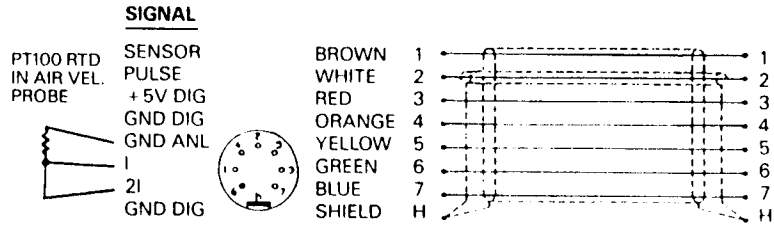
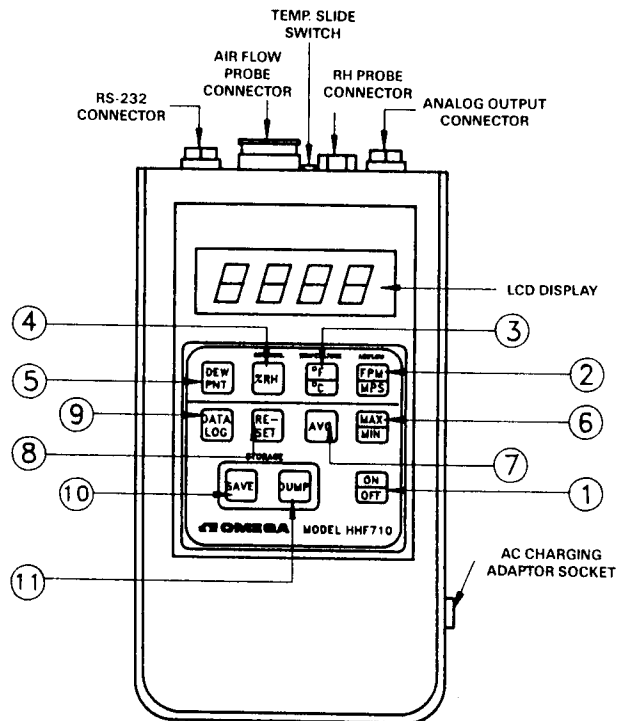

Figure 2-1. Air Velocity Probe Cable and Connector
Figure 3-1. HHF710 Front Panel
The HHF710 consists of three parts: the indicating unit, probe head with connecting cable, and the humidity/temperature probe with connecting cable. Before operating the HHF710, connect the probe head, and/or humidity/temperature probe to the appropriate connector on the top of the instrument. Tighten the knurled threaded fitting to secure the cable to the instrument. Refer to Figures 2-1 and 2-2 for wiring and Figure 3-1 for location of the probe connector.
2. Plug in one side of the AC Charging Adaptor into the socket on the side of the HHF710 and the other end to a 110VAC wall socket. Refer to Figure 3-1 for the location of the socket on the meter.
On the top of the HHF710, between the connector posts for the air velocity probe and the RH probe, there is a slide switch. Refer to Figure 3-1. Moving the slide switch towards the air velocity probe connector tells the unit to accept the RTD input from the air velocity probe. Moving the switch towards the RH probe connector measures temperature with the RH probe.
To use the RS-232 feature, first "SAVE" a number of data points into the HHF710 memory. Refer to Section 3.3, Save Feature. Next, connect the RS-232 cable to an RS-232 port. Plug one end of the RS-232 cable into the left-most connector on top of the HHF710. (Refer to Figure 3-1 for the RS-232 connector location). Connect the other end of the cable to a serial printer or computer.